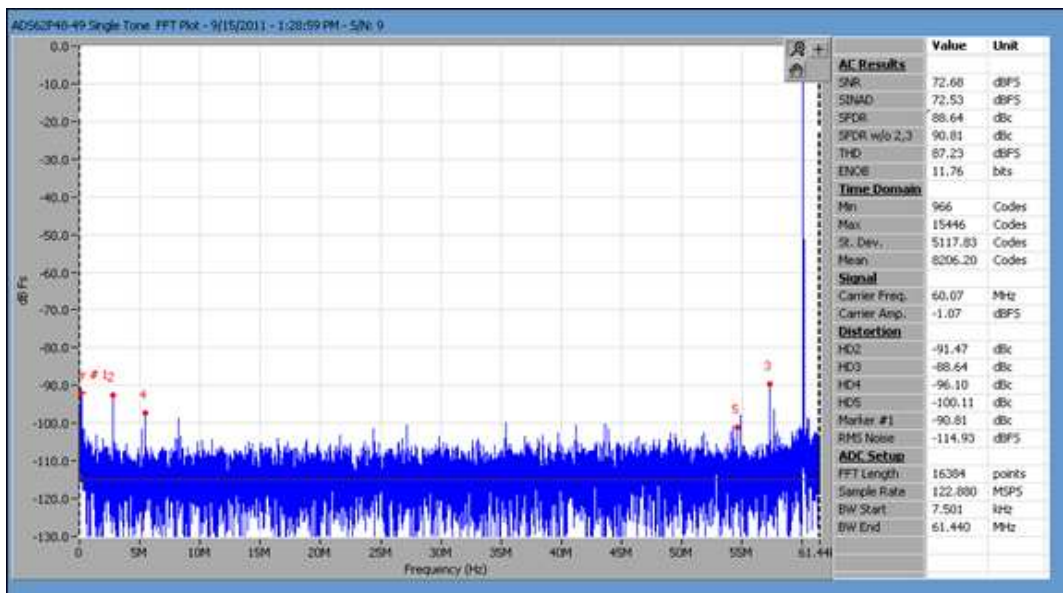
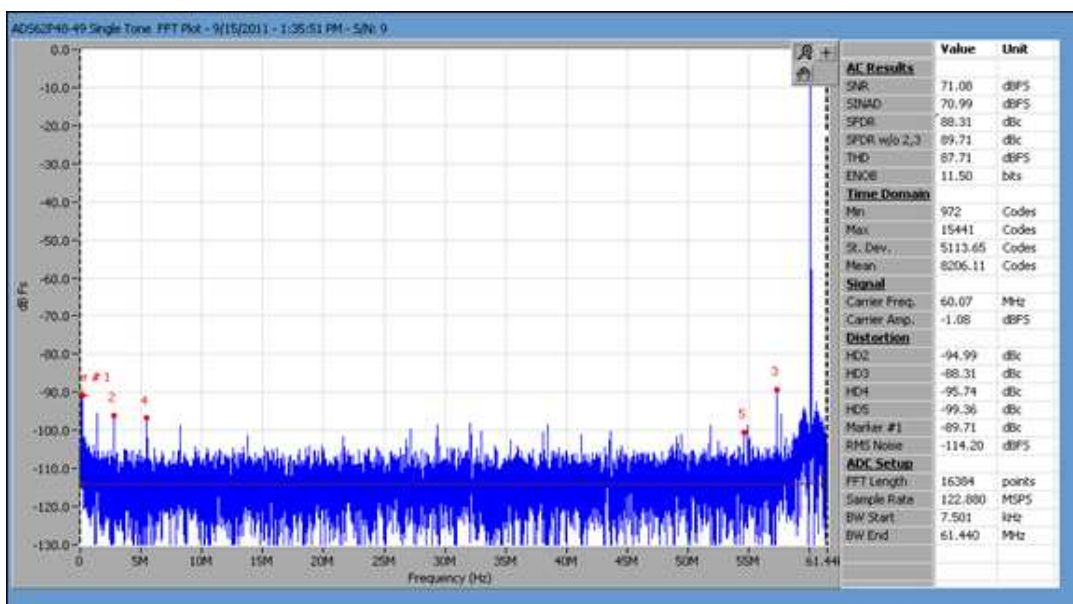

Figure 52. IF = 60 MHz Fclk = 122.88 MHz Baseline (Lab Clk Generator) ADC: ADS62P48-49
Figure 53. IF = 60 MHz Fclk = 122.88 MHz CDCM6208V1F driving ADC
**Observation:** up to an IF = 100 MHz, The ADC performance when driven by the CDCM6208V1F (Figure 53) is similar to when the ADC is driven by an expensive lab signal generator with additional passive source filtering (Figure 52).